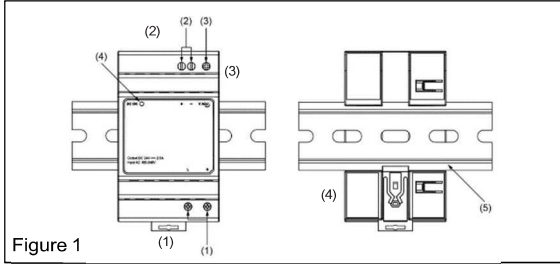
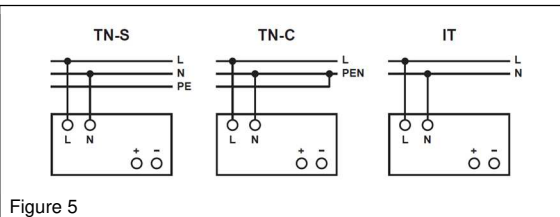

Figure 1
Figure 5
2. Device description (Fig. 1)
5.1. Input connection (Fig. 1 (1), Fig. 5)
Use L and N connections of input terminal connector (see Fig. 1 (1)) to establish the 100-240 VAC connection. The unit is protected with internal fuse (not replaceable) at L pin and it has been tested and approved on 20A (UL) and 16A (IEC) branch circuits without additional protection device.
5.2. Output connection (Fig. 1 (2))
Use the "+" and "-" screw connections to establish the 24 VDC connection. The output provides 24 VDC. The green LED DC OK displays correct function of the output (Fig. 1 (3)). The device has a short circuit and overload protection and an over voltage protection limited to < 36 VDC.